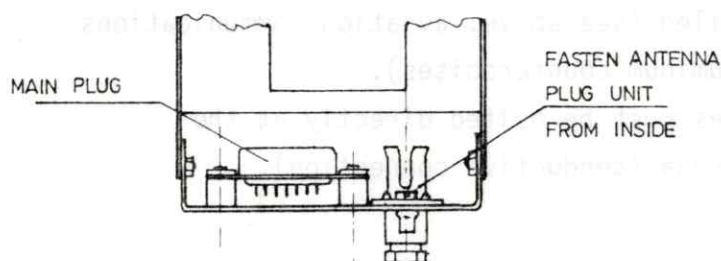

Fig. 3-7 Converting mount ES 15 to fit FSG 50
Push the FSG 50 far enough into the frame that the distance between the unit's front panel and the mounting bracket on the frame is the same as the panel thickness (refer to Fig. 3-7).
8. Pick up the new rear panel. Feed the main plug through the correct opening (refer to Fig. 3-7) and secure with suitable screws.